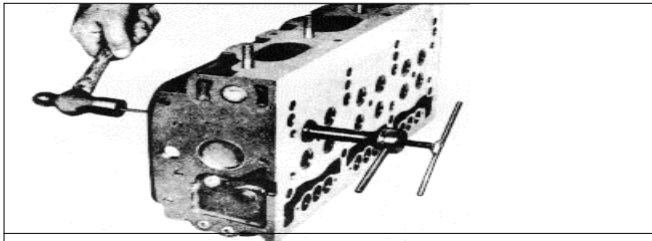

Fig.13
- (1) Place the cylinder head on its side as shown in Fig.13.
- (2) Place the collet of tool J 6567-02 inside of the valve seat insert so that the bottom of the collet is flush with the bottom of the insert.
- (3) Hold the collet handle and turn the T handle to expand the collet cone until the insert is held securely by the tool.
- (4) Insert the drive bar of the tool through the valve guide.
- (5) Tap the drive bar once or twice to move the insert about 1/16" away from its seat in the cylinder head.
- (6) Turn the T handle to loosen the collet cone and move the tool into the insert slightly so the narrow flange at the bottom of the collet is below the valve seat insert.
- (7) Tighten the collet cone and continue to drive the insert out of the cylinder head.